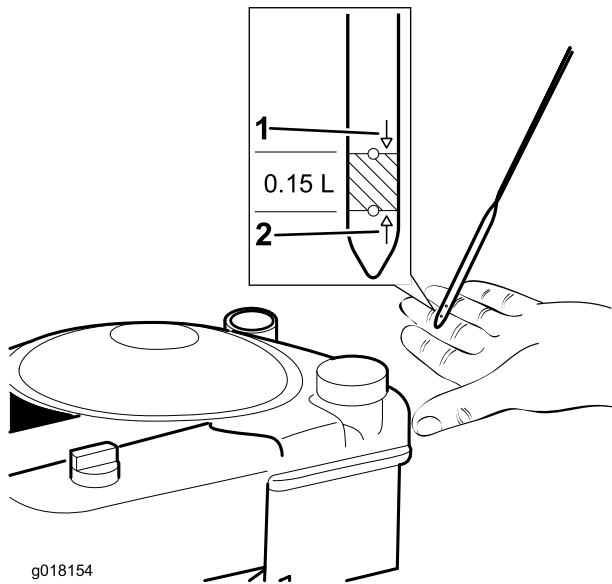

Figure 10
3. If the oil level is low, **slowly** pour oil into the oil-fill tube, wait 3 minutes, and check the oil level on the dipstick by wiping the dipstick clean and then inserting the dipstick into the tube (Figure 10).
4. Fill the engine with oil until the dipstick indicates that the engine-oil level is correct as shown in Figure 10. If you overfill the engine with oil, remove the excess oil as directed in Changing the Engine Oil \(page 13\).